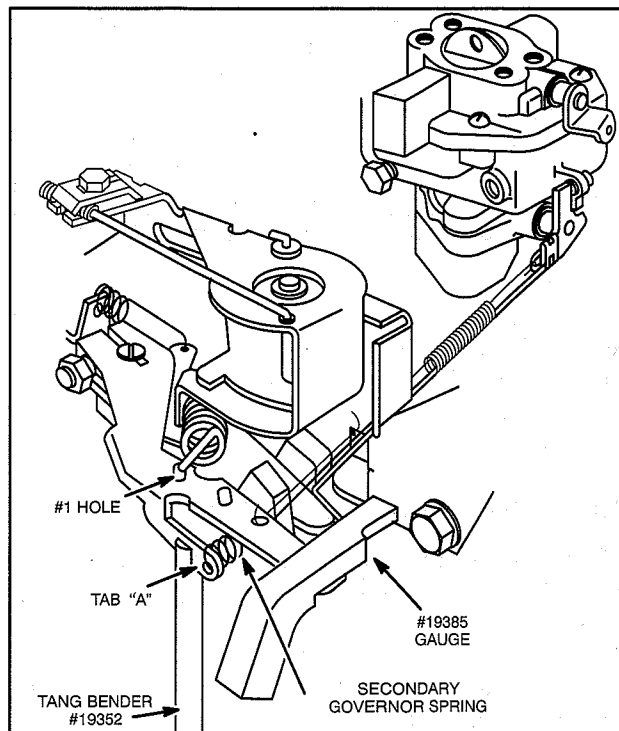

Fig. 23 - Adjusting Secondary Spring
1. With equipment control in SLOW position, install adjustment gauge, Tool #19385, with notch over end of governor lever and flat end of tool against governor control bracket as shown in Fig. 23.
2. Holding gauge in position, bend tab "A" so that all slack is removed from secondary governor spring between its two anchor points, Fig. 23. DO NOT STRETCH SPRING.